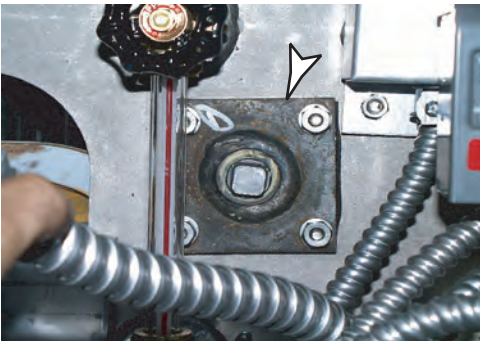

Fig.1
1. Remove low water cutoff plate and gasket located on right side of boiler (see Fig.1).